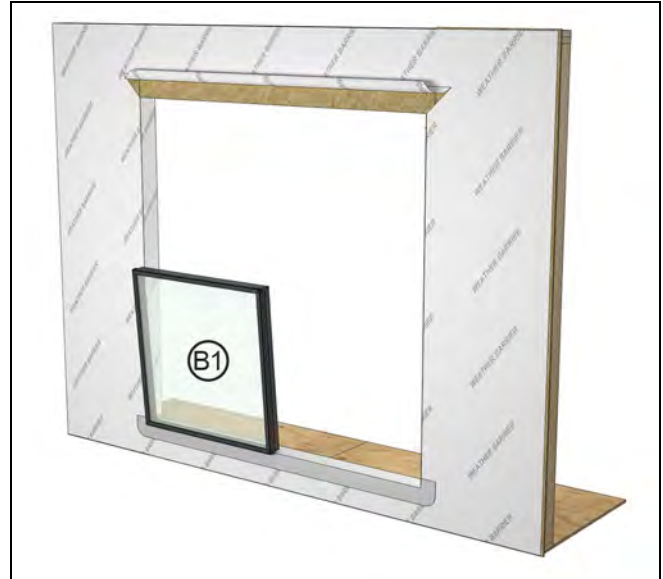

Figure 37
6. Set the first unit (B1) in the opening. See Figure 37.